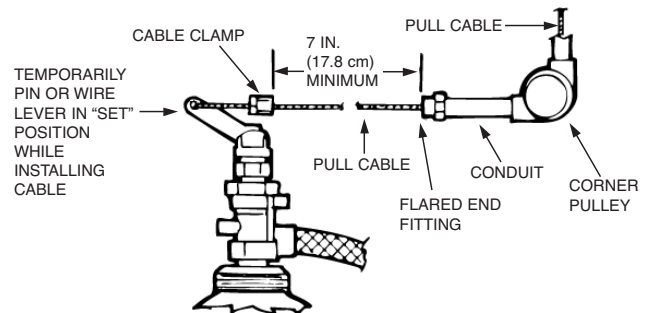

FIGURE 19
11. Position sleeve approximately 1/2 in. (1.3 cm) and crimp to secure wire rope. (Use the National Telephone Supply Company Nicopress Sleeve tool Stock No. 51-C-887 or equal to properly crimp stop sleeve.) See Figure 19.
6. Wire or pin the actuator lever in the "SET" position to prevent accidental discharge when installing the cable. See Figure 19.
7. Feed cable through hole in actuator lever and fasten with cable clamp. See Figure 19.
8. When installing, make certain there is at least 7 in. (17.8 cm) of free cable between the cable clamp and the flared end fitting for proper operation of lever. See Figure 19.